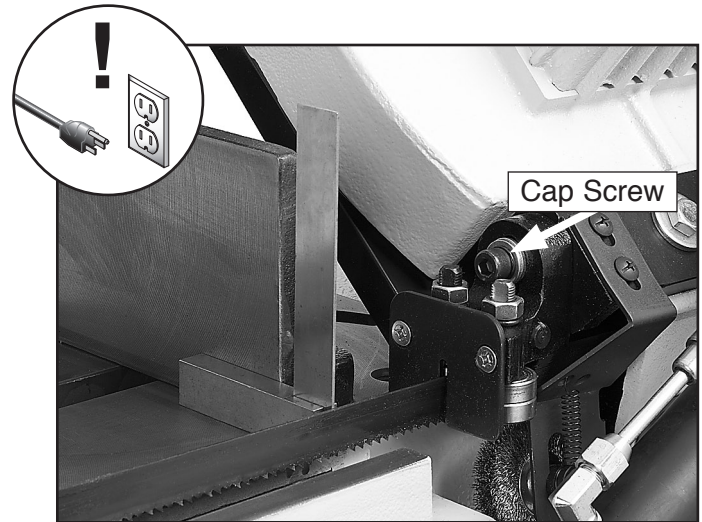

Figure 47. Squaring the blade.
3. Place a square on the table bed and against the edge of the blade (**Figure 47**), and check different points along the length of the table between the blade guides.
4. Loosen the cap screw shown in **Figure 47**, and rotate the blade guide until the blade is vertical to the bed, then tighten the cap screw.